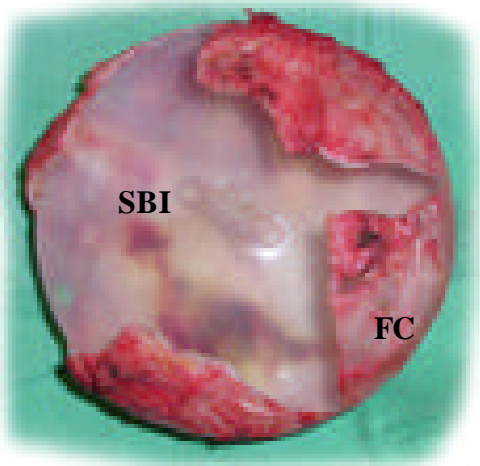

Fig. 1. The fibrous capsule (FC) that had been contracting around this retrieved Silicone breast implant (SBI) has been cut open.
1. Major problems with silicone breast implants (Fig. 1) are the thickening and contraction of the fibrous tissue (scar) capsule that forms around the device. Write the unit cell process(es) that are responsible for this thickening and contraction. Name possible regulators when they are known.